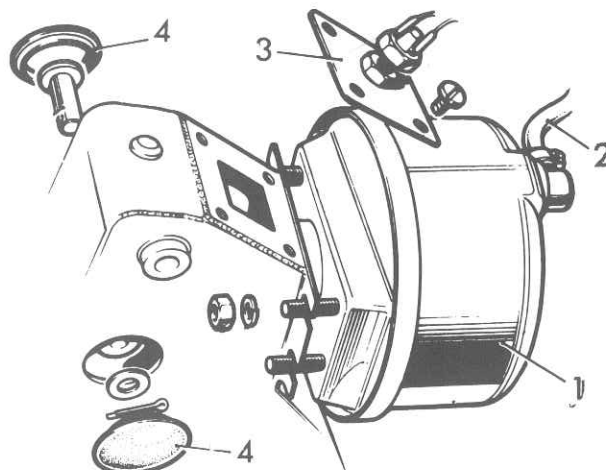

Fig. 9.34. Removing the servo unit
- 3 Remove the screws securing the switch plate to the top of the pedal box and lift off the switch and plate (see Fig. 9.34).